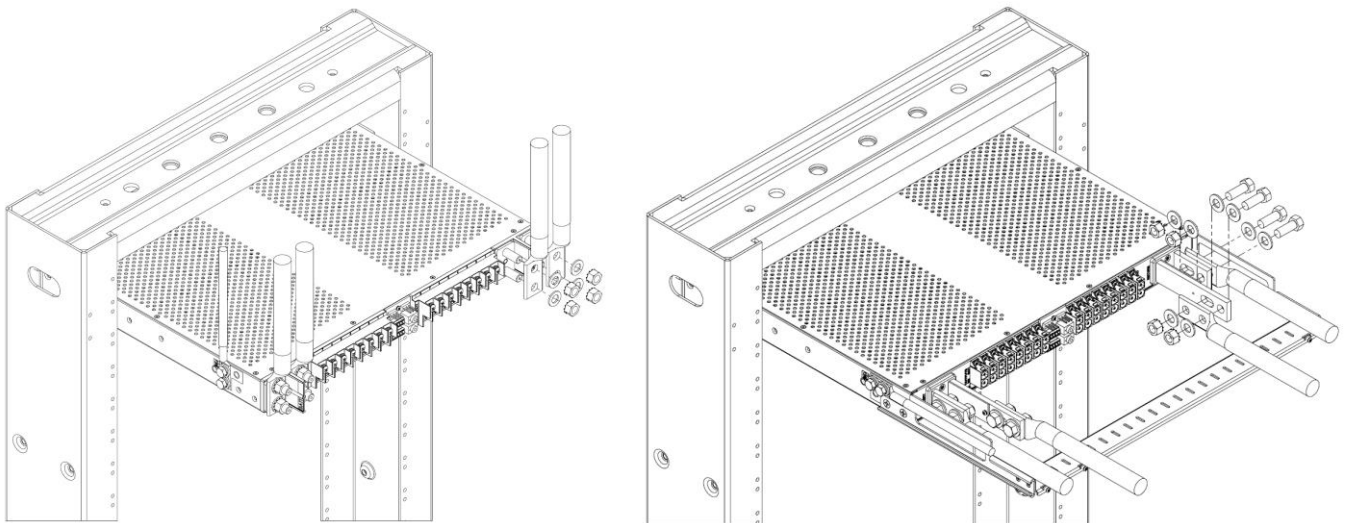

Fig. 2-7: Input Lugs
17. If required, lightly coat antioxidant on lugs and input BATT and RTN terminals and then connect lugs to input terminals, as shown in Fig. 2-7.